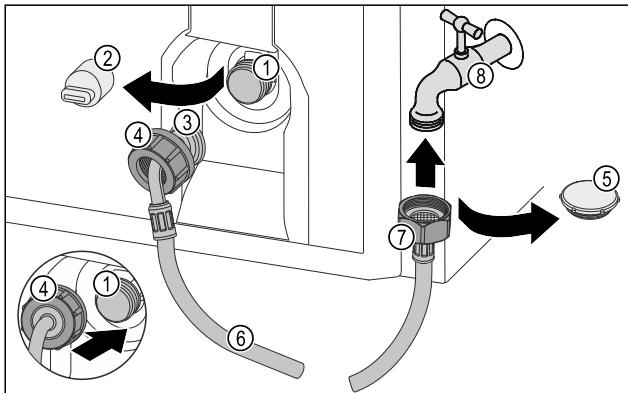

Fig. 45
- ▶ Remove the closure cap Fig. 45 (5).
- ▶ Place the straight end of the hose Fig. 45 (7) on the tap Fig. 45 (8).
- ▶ Tighten the nut at the straight end of the hose Fig. 45 (7) in a clockwise direction.